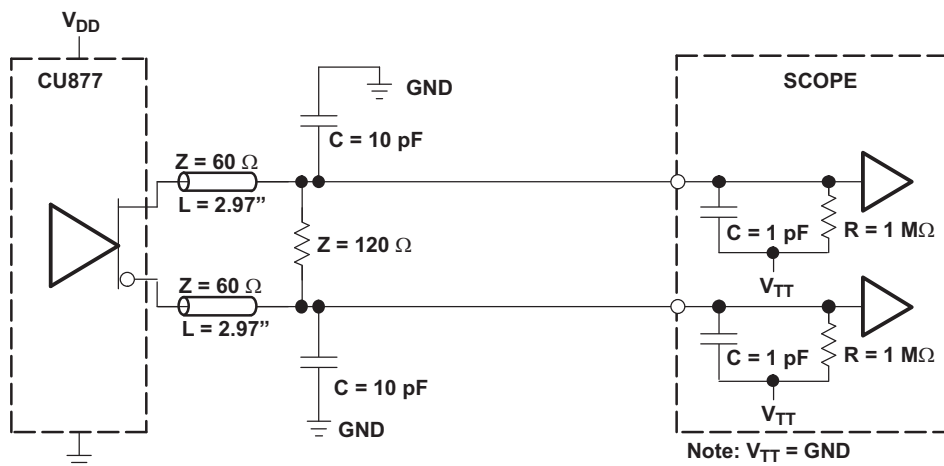
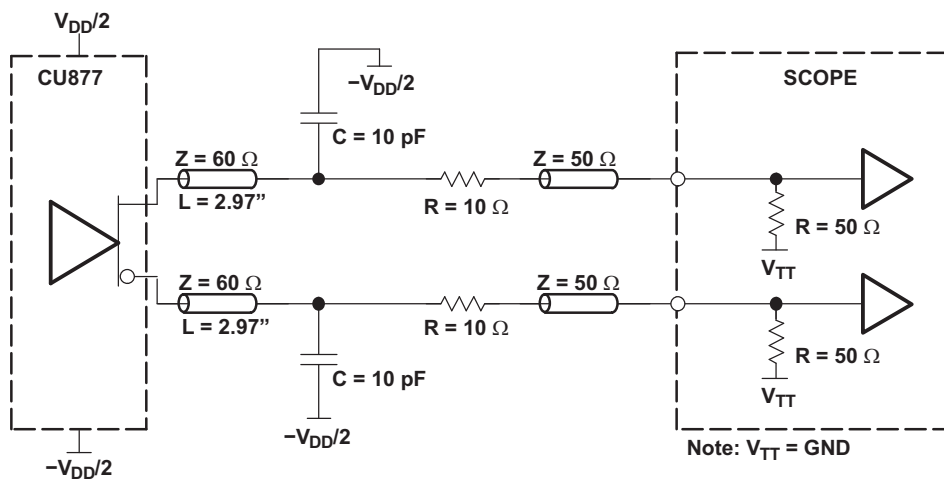

Figure 2. Output Load Test Circuit 1
Figure 3. Output Load Test Circuit 2
- (1) There are two different terminations that are used with the following tests. The load/board in Figure 2 is used to measure the input and output differential-pair cross voltage only. The load/board in Figure 3 is used to measure all other tests. For consistency, equal length cables must be used.
- (2) This parameter is specified by design and characterization.
- (3) Phase static offset time does not include jitter.
- (4) Period jitter, half-period jitter specifications are separate specifications that must be met independently of each other.
- (5) The output slew rate is determined from the IBIS model with a 120-Ω load only.
- (6) To eliminate the impact of input slew rates on static phase offset, the input skew rates of reference clock input CK and $\overline{CK}$ and feedback clock inputs FBIN and $\overline{FBIN}$ are recommended to be nearly equal. The 2.5-V/ns skew rates are shown as a recommended target. Compliance with these typical values is not mandatory if it can adequately shown that alternative characteristics meet the requirements of the registered DDR2 DIMM application.
- (7) Output differential-pair cross voltage specified at the DRAM clock input or the test load.
- (8) V_{OX} of CDCU877A is on average 30 mV lower than that of CDCU877 for the same application.